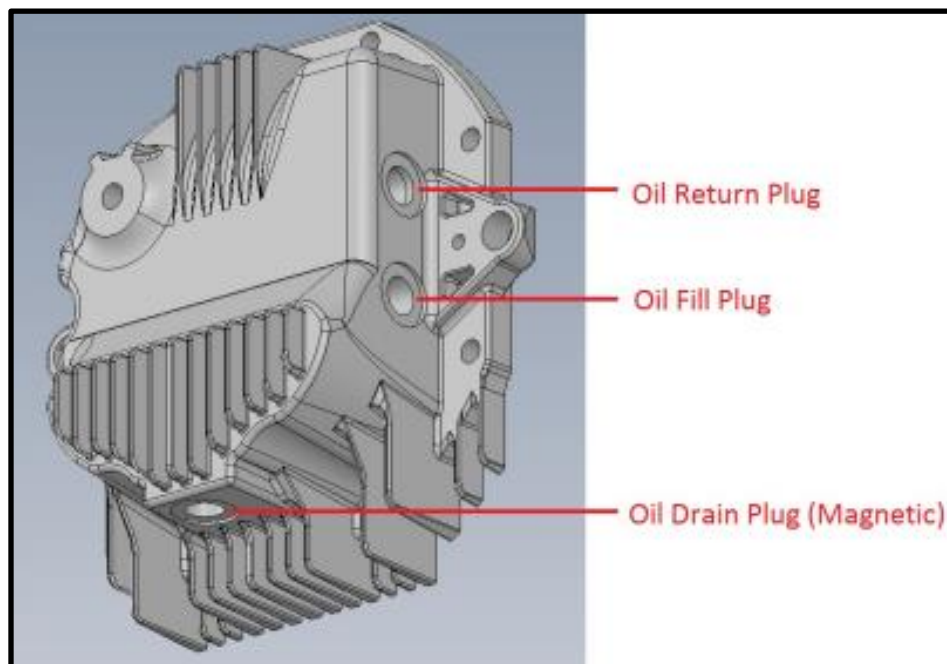

Figure 1
2. Fill Differential with Fluid until level with *Oil Fill Plug* hole. A 75w90 Differential Fluid is recommended for street driving, while a 75w140 Differential Fluid is recommended for Track use and Spirited Driving. Make sure to not overfill the differential, and use the proper fill port on the Z1 Differential Cover. *Figure 1.*